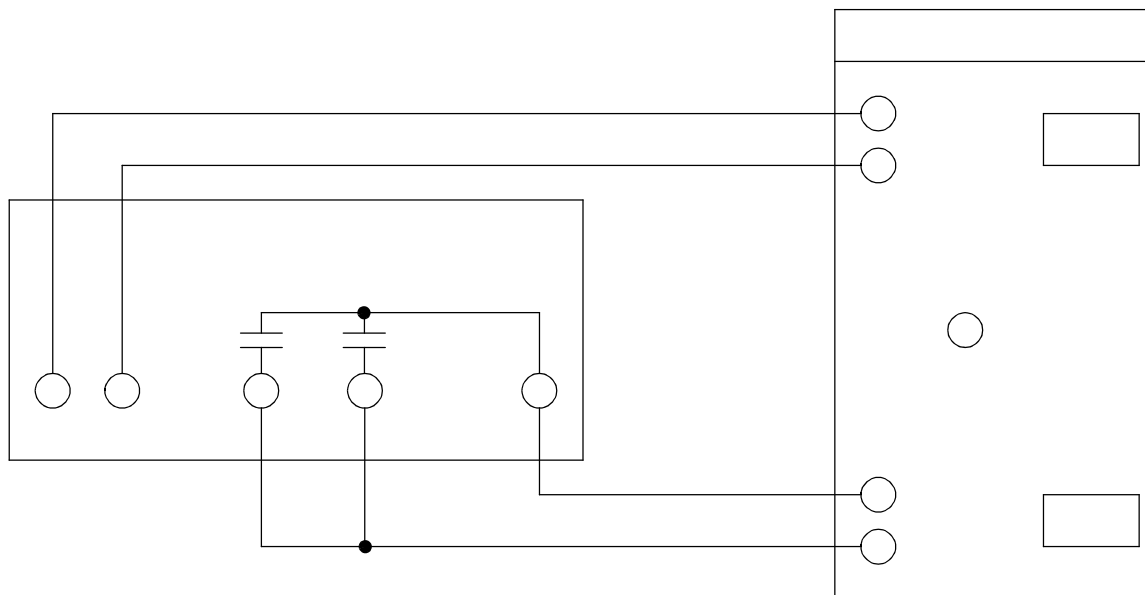

Figure 5-1. Pickup And Timing Test Setup
The following procedures verify operation of relays BE1-50/51B-214 (5 ampere model) and BE1-50/51B-225 (1 ampere model). The test setup of Figures 5-1 and 5-2 (showing the BE1-50/51B-214) are intended primarily as an illustration of the principles involved. Other test setups known to be capable of testing with the stated and implied tolerances (including equipment specifically designed for testing relays) may be used.
- Connect test setup as shown in Figure 5-1.